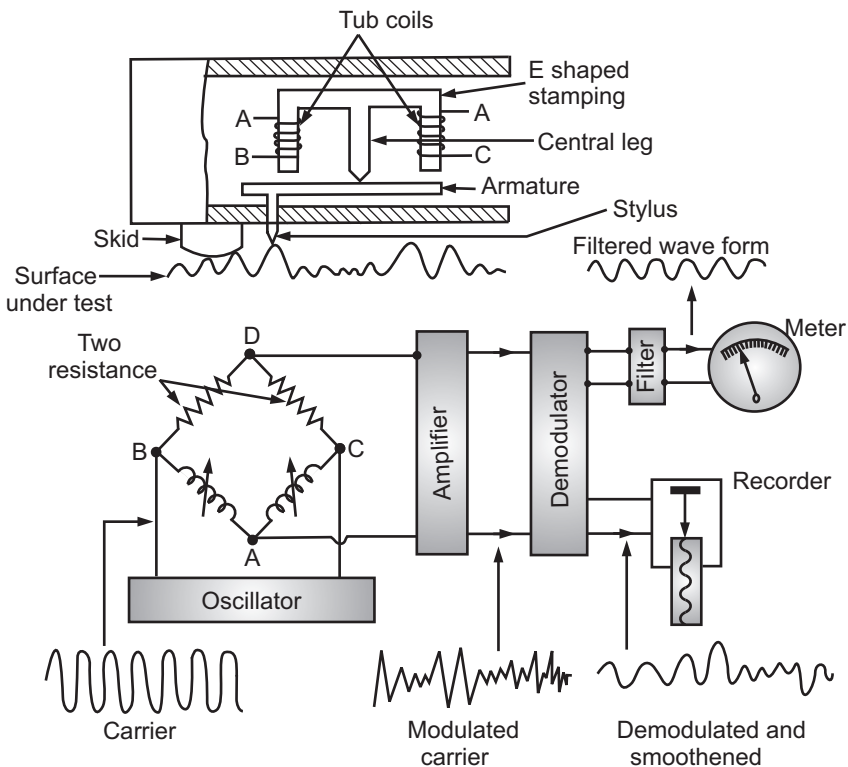

Fig. 7.12: Schematic Layout of Talysurf roughness tester
- Here, the arm carrying the stylus forms an armature, which pivots about the centre piece or centre leg of E-shaped stamping as shown in Fig. 7.12.